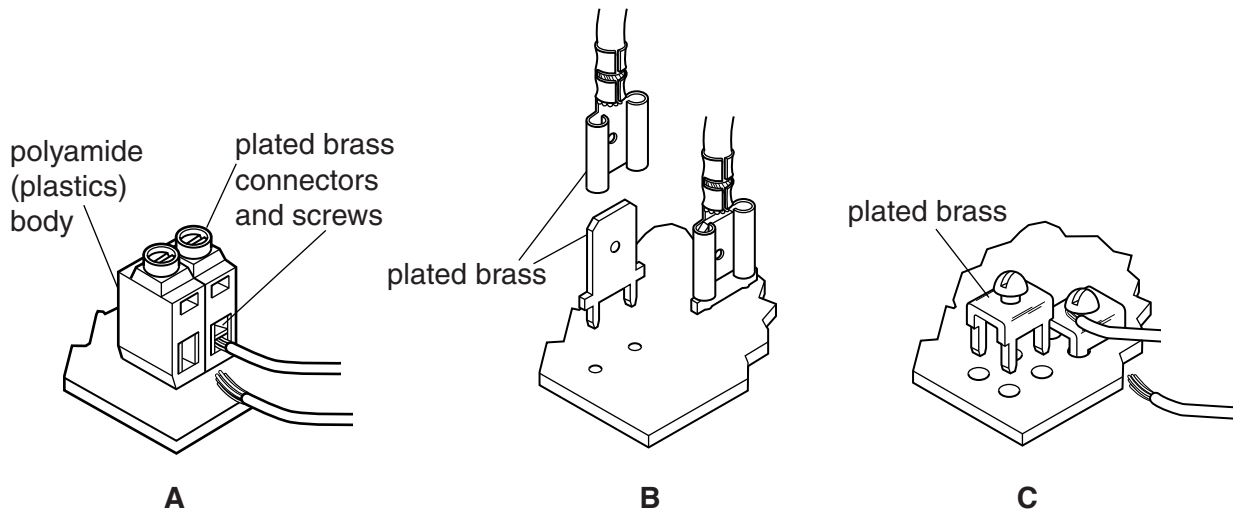

Fig. 7
- (iii) Three alternative methods of connecting wires to a circuit board are shown in Fig. 7.